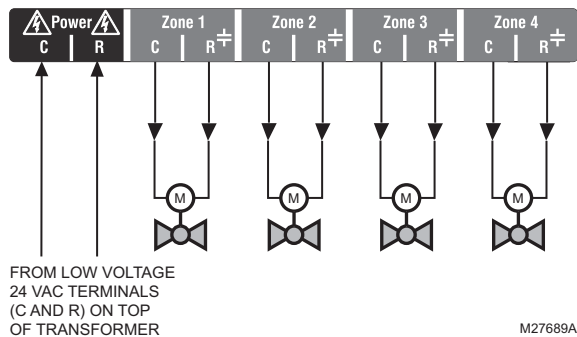

Fig. 11. Wiring an AQ15540B Zoning Module for use with low voltage zone valves without end switches.
- Using Fig. 11 on page 9 as a guide, run jumper wires from the R and C terminals on the secondary of the AQ250's transformer, through the wiring channel across the top of the Control Panel, and down through the wiring channel on the right side of the panel and over to the R and C terminals on the bottom of the Zoning Module.